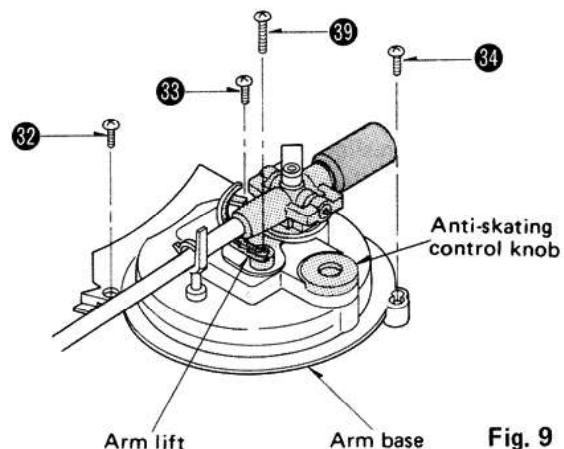

Fig. 9
2. Remove the arm base setscrews 32 ~ 34. Then, the arm base can be removed. (See Fig. 9)
6. When removing this lift base plate, remove the arm lift setscrew 39 before turning over the arm base, and then remove the arm lift. (See Fig. 9)
7. Remove the anti-skating control knob. (See Fig. 9)